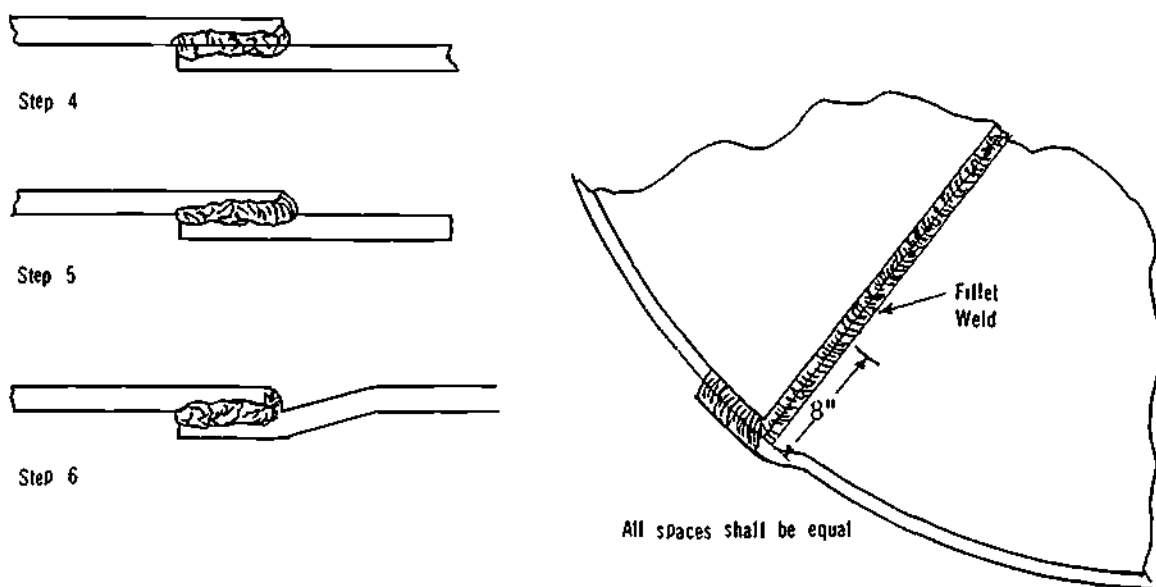

Figure 12-10. Flushing (Joggling) Block Plates at Circumference of Tank
- Step 4. Weld one stringer pass from the corner of the joint for 8" and weld across the end of the lapped plates (Figure 12-10).
- Step 5. Run a second pass to make 8" of full fillet weld (Figure 12-10).
- Step 6. Place a suitable back-up bar underneath the under lapped plate and hammer down with a mallet until the surface of both plates is flush (Figure 12-10).